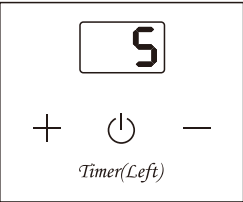

Fig.4
① Turn on the hob in order to confirm it works normally.
② Long press timer switch “⏻”, display screen shows “5” (minutes) and starts flashing. (Fig.4)
③ Press “+” or “-” to adjust the timer setting when flashing, Settings will repeat stepwise in cycles.